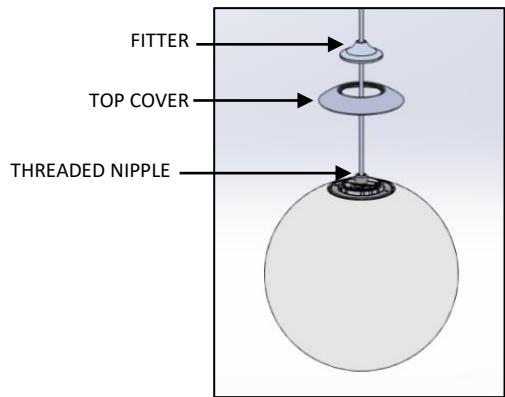

FIG. 29 – REFLECTOR
23. Make sure that ACRYLIC SHADE is properly seated onto the INSERT COLLAR and then set the TOP COVER and INSTALL FITTER back to the THREADED NIPPLE as shown below in FIG. 29.